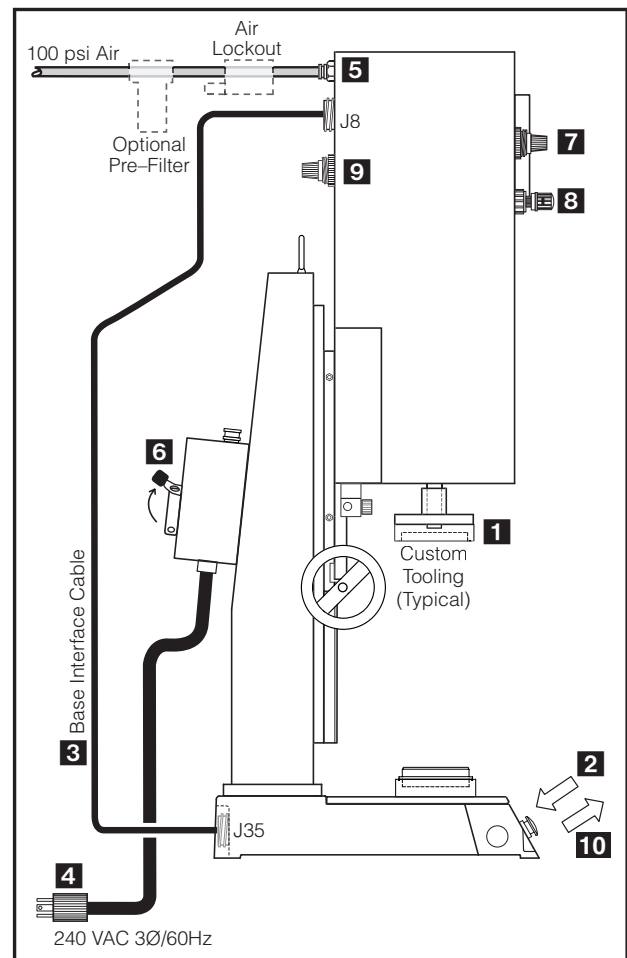

Figure 7-2 Location of Setup Checklist Items
The Base Interface cable should be connected between the base connector and the press connector as shown in Figure 7-2. These are identified as (4) and (18) on the major components view Figure 2-3.